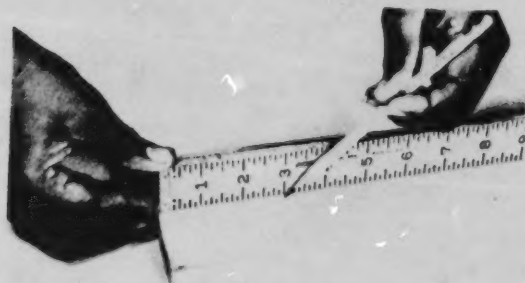

Figure 3-4 Be sure to measure accurately
3. Make a small pencil mark on the wood at the exact point where the marks on your bench rule are equal to the dimensions shown on the working drawing of your project (Figure 3-4).